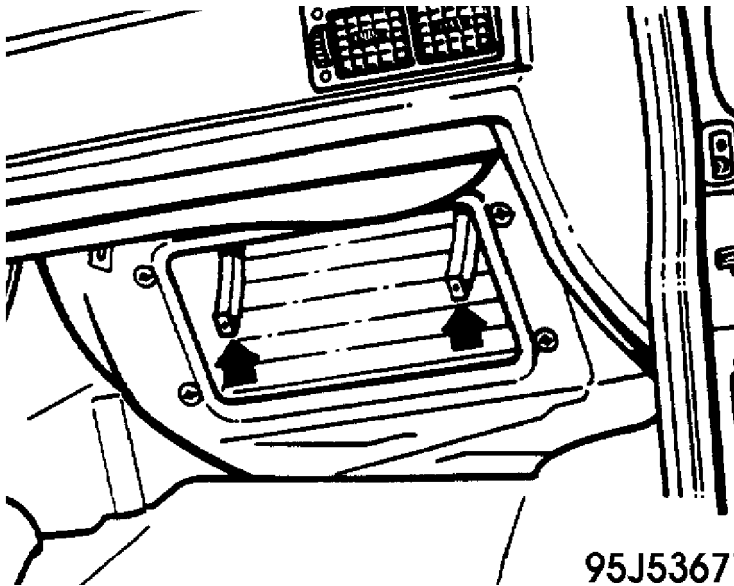

Fig. 3: Recirculation Air Flap Screw Locations
- Remove screws from recirculation air flap. See Fig. 3 (arrows).